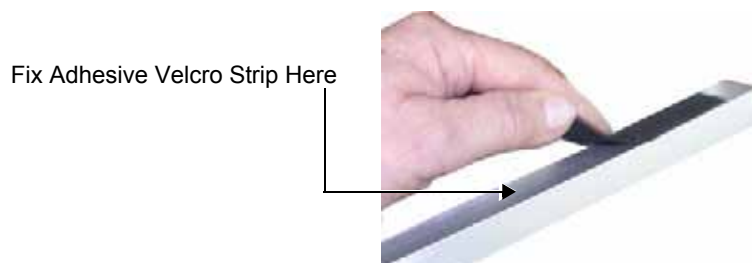

Figure 8-142 Applying Velcro Strip to Outer Side of Aluminium Stopper
13.) Holding one of the velcro strips, remove the protective sheet from the self-adhesive side (*hook* section) and carefully apply the strip to the outer side of the aluminium VCR stopper, placing it close to the edge as shown in Figure 8-142 below. Press down to secure firmly in position.